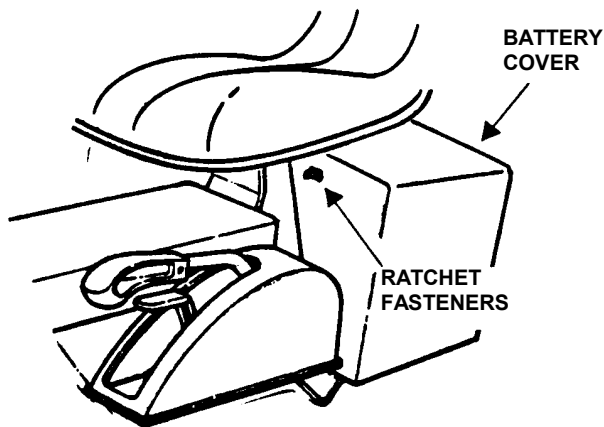

FIGURE 4.17
1. Carefully pull each side of battery cover away from ratchet fasteners and remove cover. See Figure 4.17.